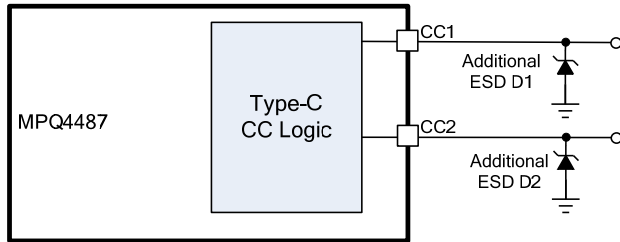

Figure 11: Recommended CC Pins ESD Enhancing
11) See Figure 11 for the CC pins' ESD protection enhancing details.